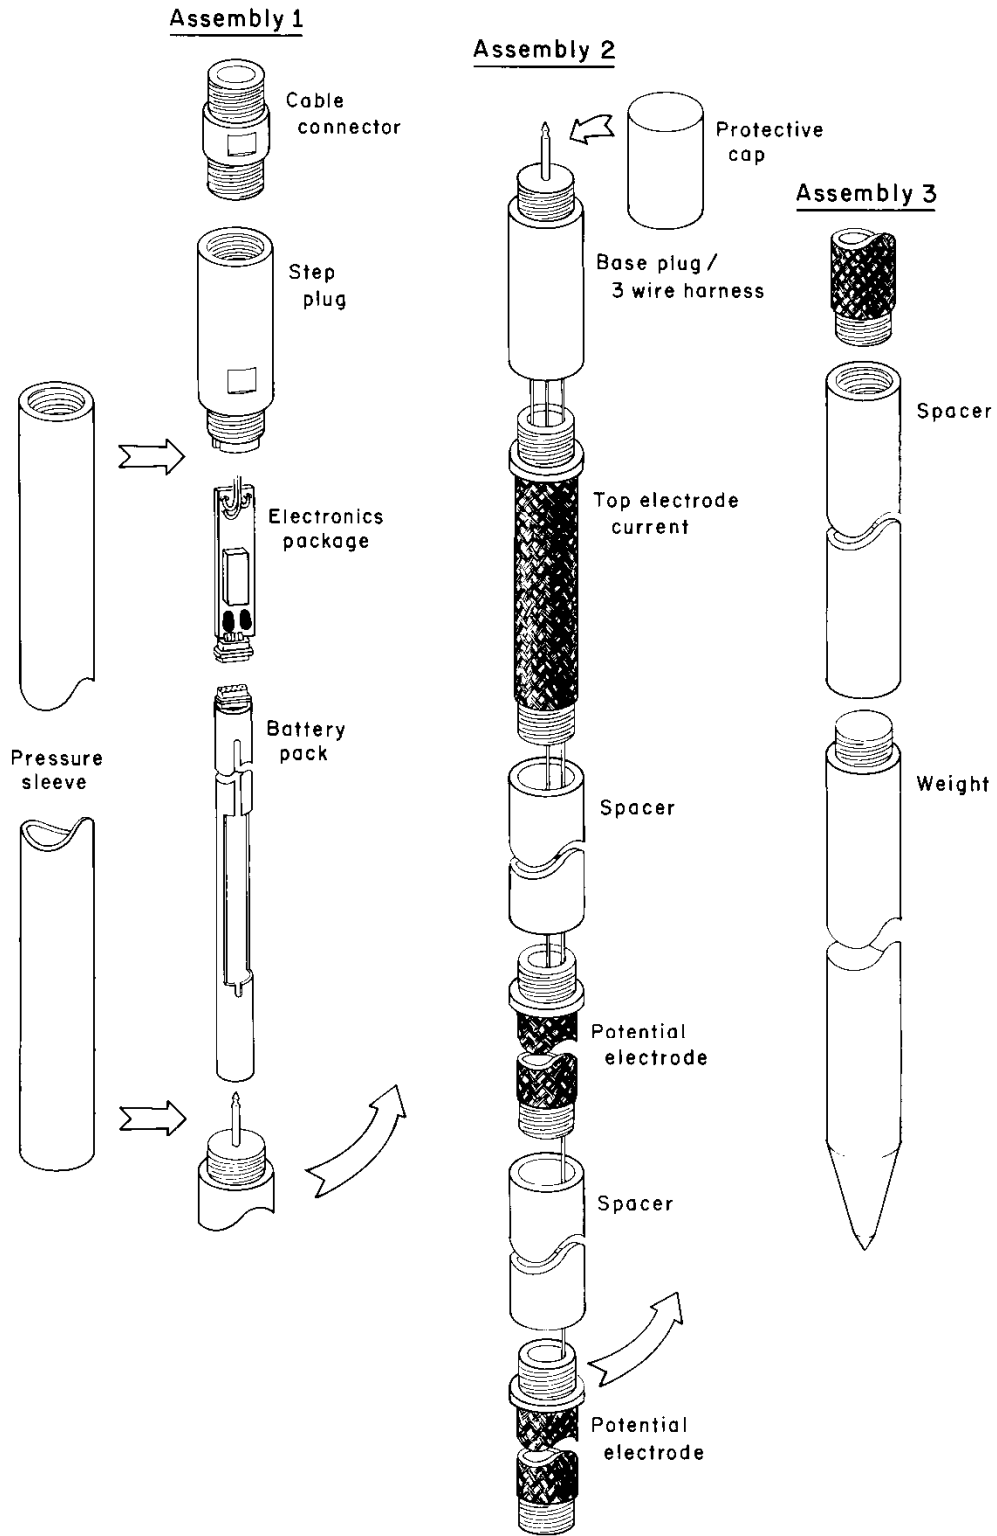

Figure 5 Complex Resistivity Downhole Probe
- 3.3. In making downhole complex resistivity measurements, it is advisable to use an active probe, with a preamplifier built into the probe (see *Figure 5*). This reduces coupling between the transmitted and received signals. In shallow measurements, it is possible to use a passive probe with a time-domain signal. Zonge Engineering manufactures the active DOWNHOLE PROBE pictured in *Figure 5*.